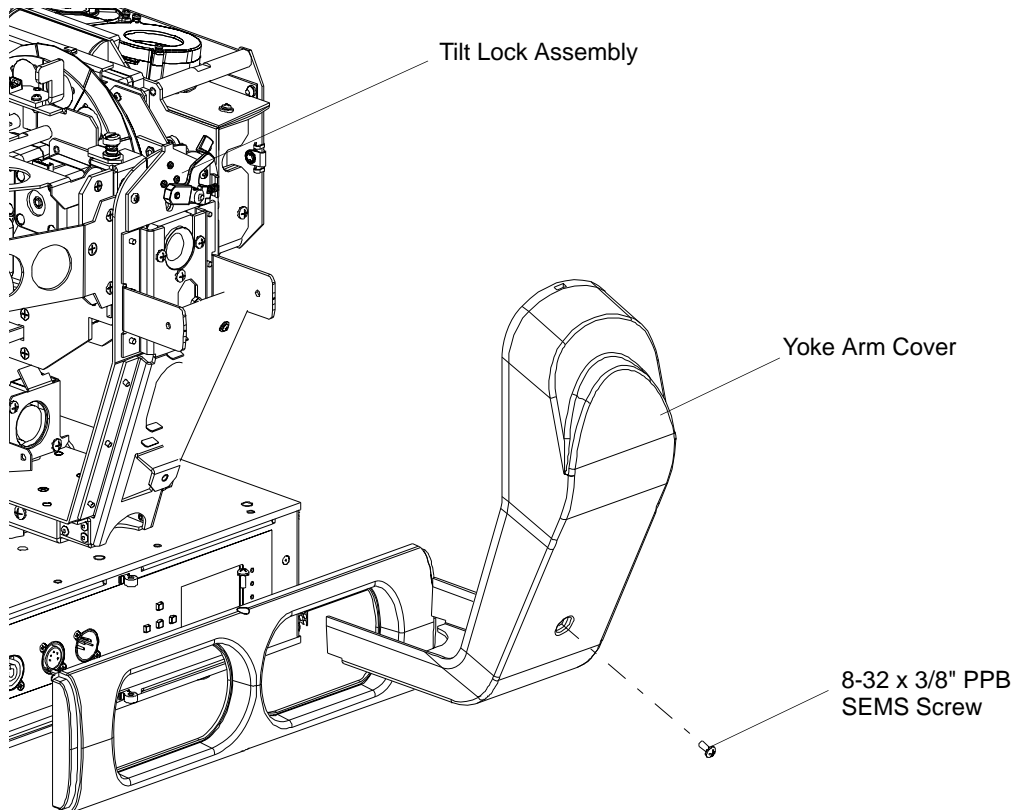

Figure 2-24: Tilt Lock Side Yoke Arm Cover Removal
Step 2. As shown in Figure 2-24, remove tilt lock side yoke arm cover by removing one 8-32 x 3/8" PPB SEMS screw.